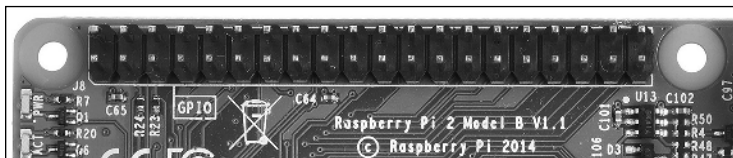

FIGURE 1-4: GPIO pins enable control of real world devices.
- The GPIO pins (see Figure 1-4) allow the Raspberry Pi to control real-world devices that have no other method of computer input/output.